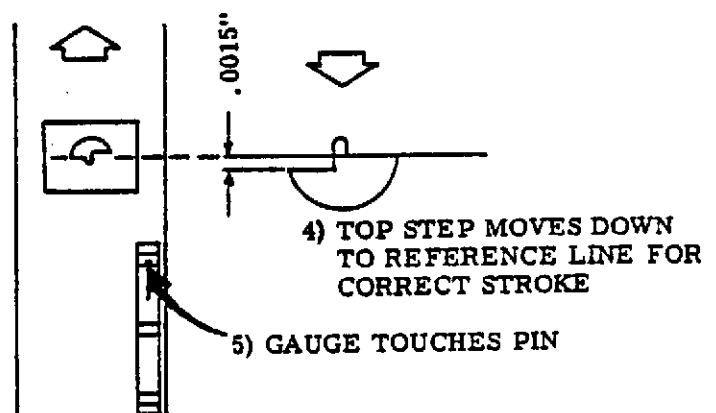

Figure 3-74. CLAW PULL DOWN STROKE
- g. Pull up on the Gauge. The projected Target will move down. The upper Target step must touch the reference line drawn in Step 6 for correct stroke (Figure 3-74).